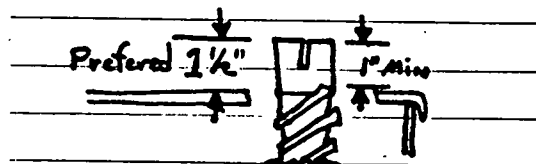

FIGURE 6. Correct Exhaust Tube Adjustment
5. Flexible exhaust tube engagement and alignment is CRITICAL to prevent any exhaust leaks and allow free movement of the set on its vibration mounts. See Figure 6.